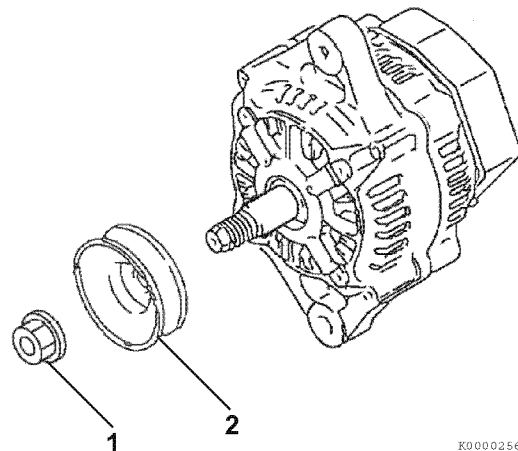

Figure 11-18
- Reassemble the pulley (2, **Figure 11-18**) and nut (1, **Figure 11-18**) to the shaft of the rotor assembly. Tighten the nut.